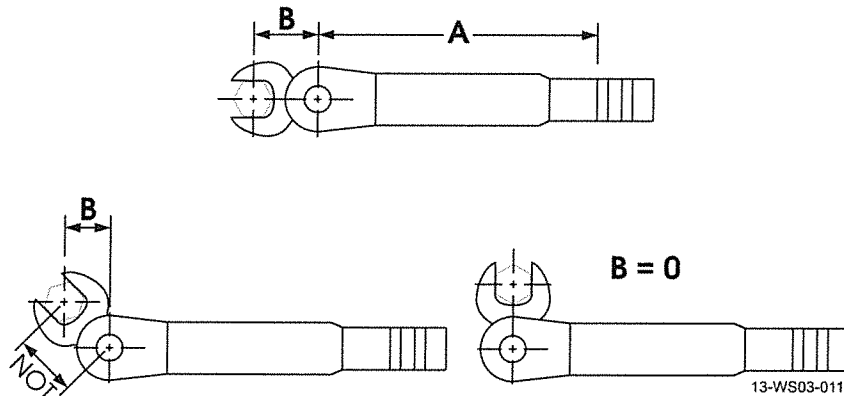
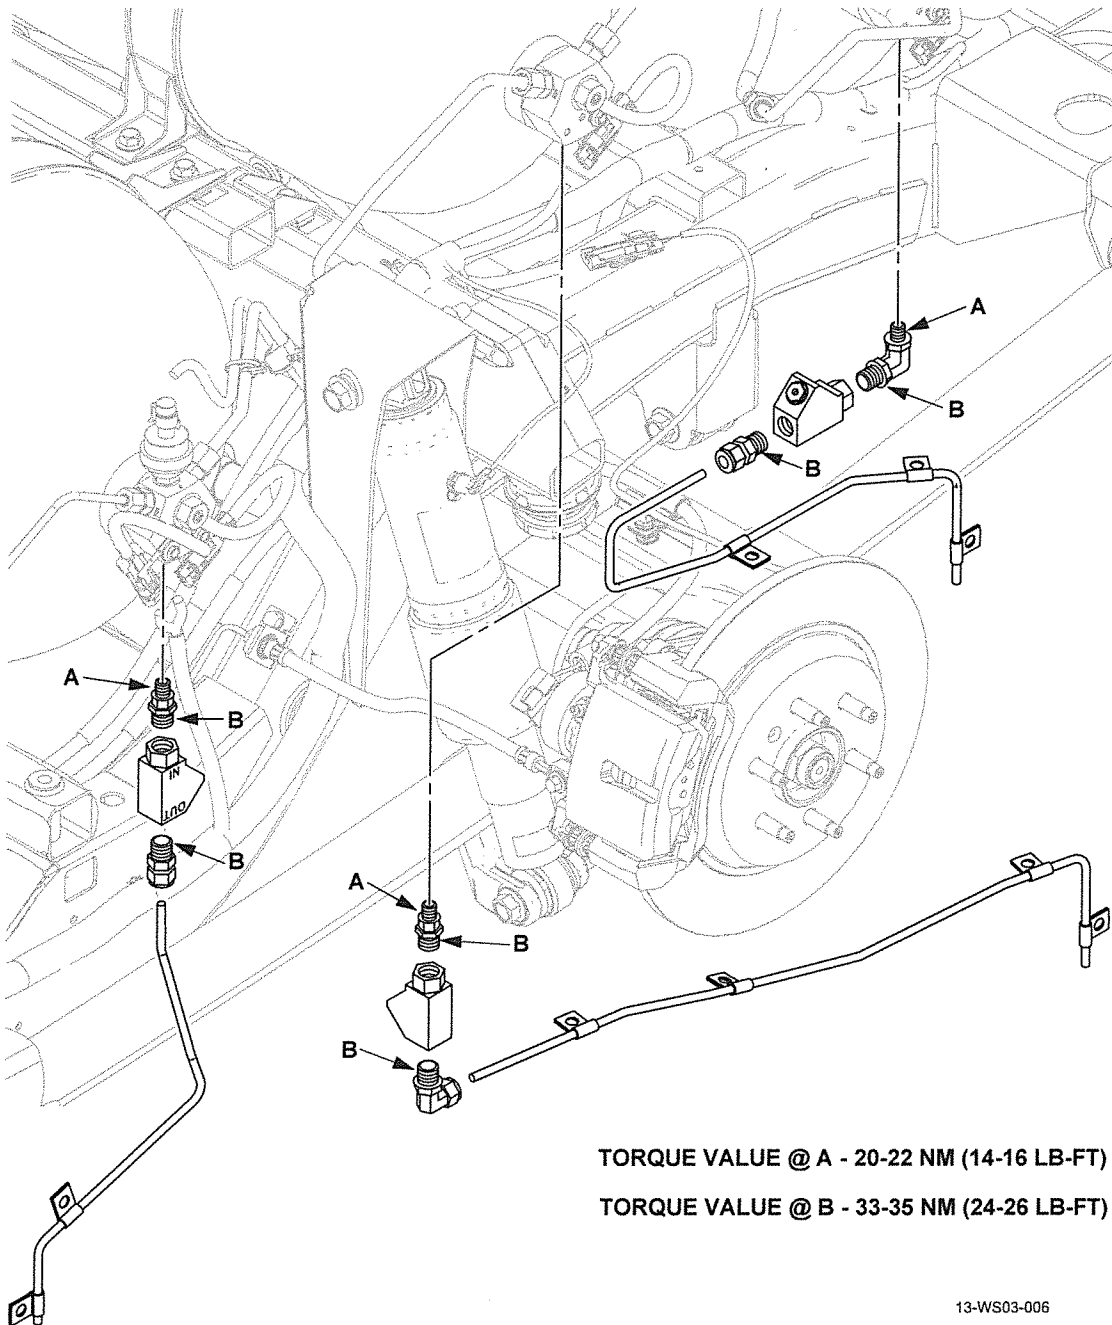

Figure 7: Crows Foot Torque Value Correction
Figure 8: Torque Value Locator
- 16. Using a crows foot wrench on a torque wrench, torque the nuts on tank valve to PRD fittings to 20-22 Nm (14-16 lb-ft) (See Figure 8). The following formula and drawing (See Figure 7) indicates the corrected torque values for use of a crows foot on a torque wrench.
17. Using a crows foot wrench on a torque wrench, torque the two 90 degree fittings to the center and rear tank PRDs to 33-35 Nm (24-26 lb-ft) (See Figure 8).